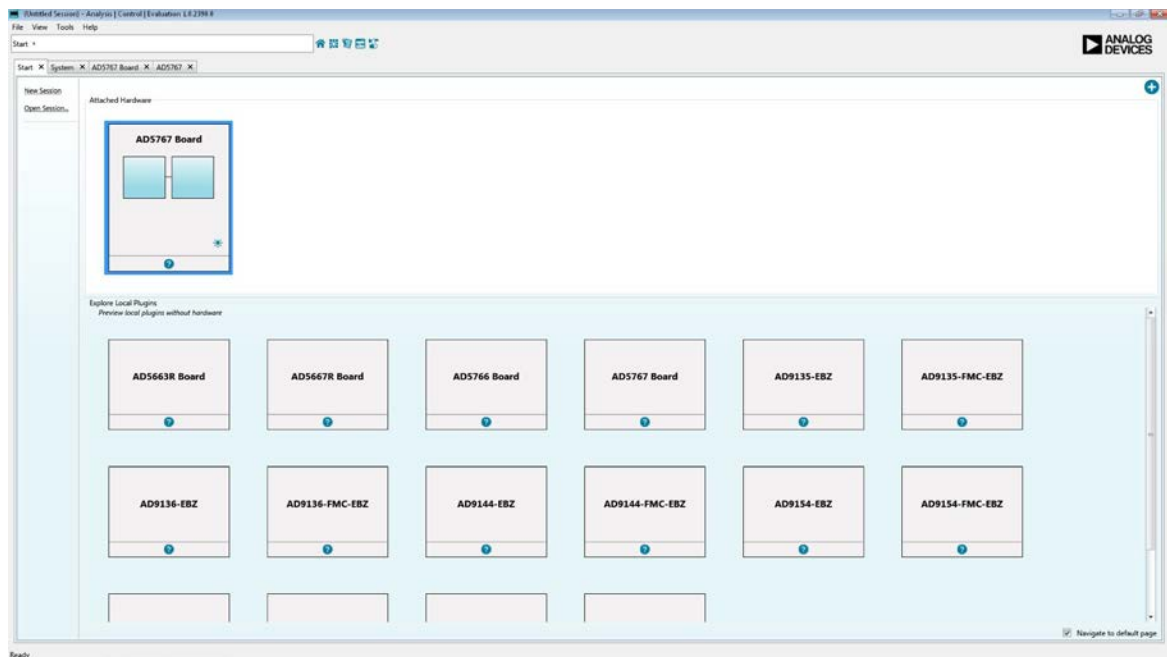
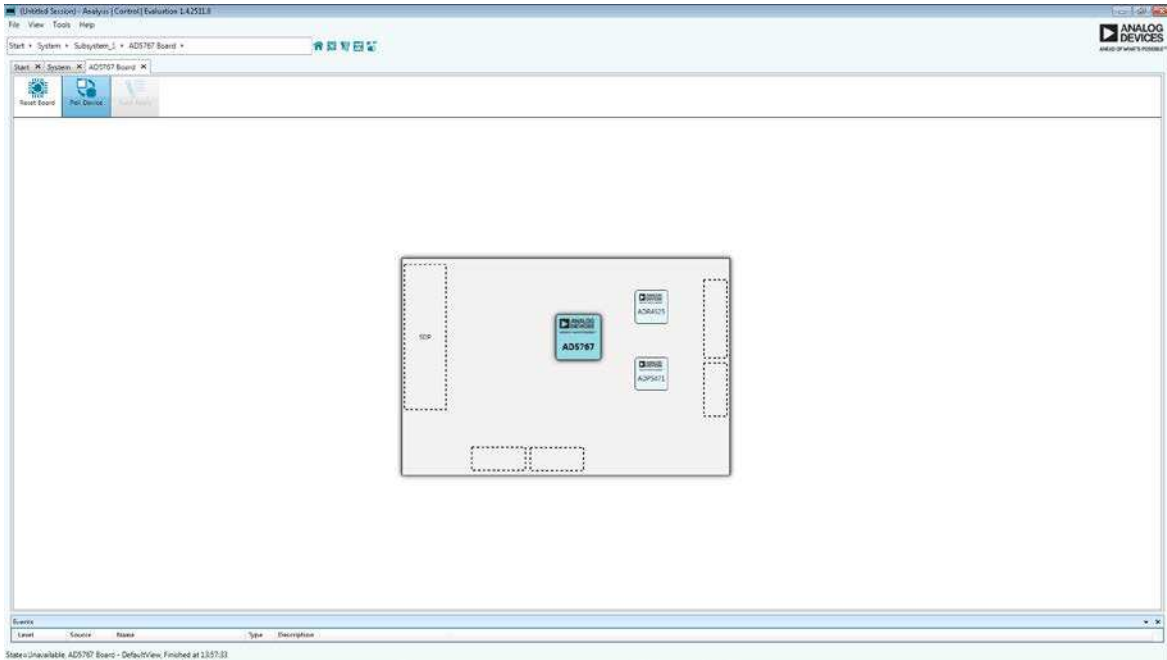

Figure 7. Start Tab for the EVAL-AD5767SD2Z ACE Software
Figure 8. AD5767 Board Tab for the EVAL-AD5767SD2Z ACE Software
1. To launch the ACE software, click **Start > All Programs > Analog Devices > ACE**. The software opens in the **Start** tab and recognizes the EVAL-AD5767SD2Z (see Figure 7).
2. Double click the **AD5767 Board** icon under **Attached Hardware** to open the **AD5767 Board** tab (see Figure 7 and Figure 8).
3. Double click the **AD5767** icon under **Explore Local Plugins** shown in Figure 7 to open the **AD5767** chip tab (see Figure 9). This tab displays the block diagram and allows the user to configure the DAC input registers and control registers. The hardware registers on the AD5766/AD5767 are not altered until the **Apply Changes** button is clicked.